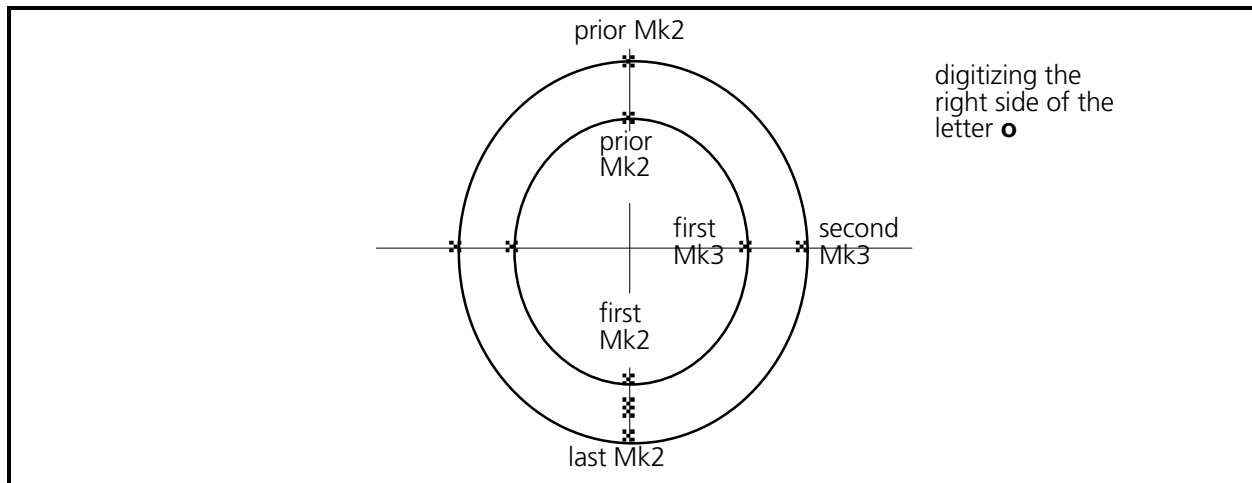

Figure 3-30
Again, when digitizing 2 or more consecutive columns on an arc, you do not redefine the beginning of the second (and other additional) columns with a Mk1, Mk2. The last Mk2, Mk2 sequence of the prior column defines the start of the current column (see Figure 3-30).
7. The start of the right side column of the letter is already defined, therefore, enter the first Mk3 for this column directly on the inside circle, half way around to the bottom of the letter (see Figure 3-30).
8. Enter the second Mk3 on the line of the outside circle and half way around to the bottom of the letter (see Figure 3-30).
9. Enter the first Mk2 for the end of this column at the bottom middle of the inside circle to define the end of the inside of the right half column (see Figure 3-30). This is the same location where you started the column digitizing with a Mk1.
10. Enter the last Mk2, to define the end of the outside of the column, at the bottom of the outside circle of the letter (see Figure 3-30). This is the same location where you entered the first Mk2, starting the column stitch digitizing.